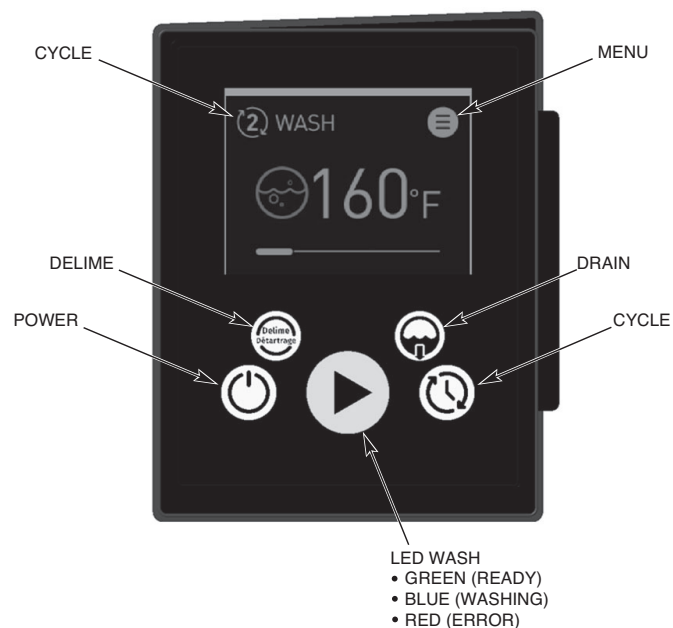
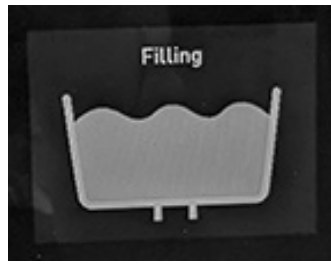

Fig. 21
Fig. 22
Close the door. Press the POWER button to turn the power on (Fig. 21). If the machine's door is closed and no water is in the tank, the fill cycle will begin automatically. If water is detected in the tank, the machine will check the temperature of the water and if the water is cold, the machine will drain the water out prior to filling with fresh water. If the water is hot, the machine will proceed to heat the water to the wash tank temperature set point. During the fill cycle, the word FILLING is displayed along with an image of a bucket filling to show progress (Fig. 22).
8. Press manual drain button (page 22, Fig. 21) until no water remains on tank bottom.